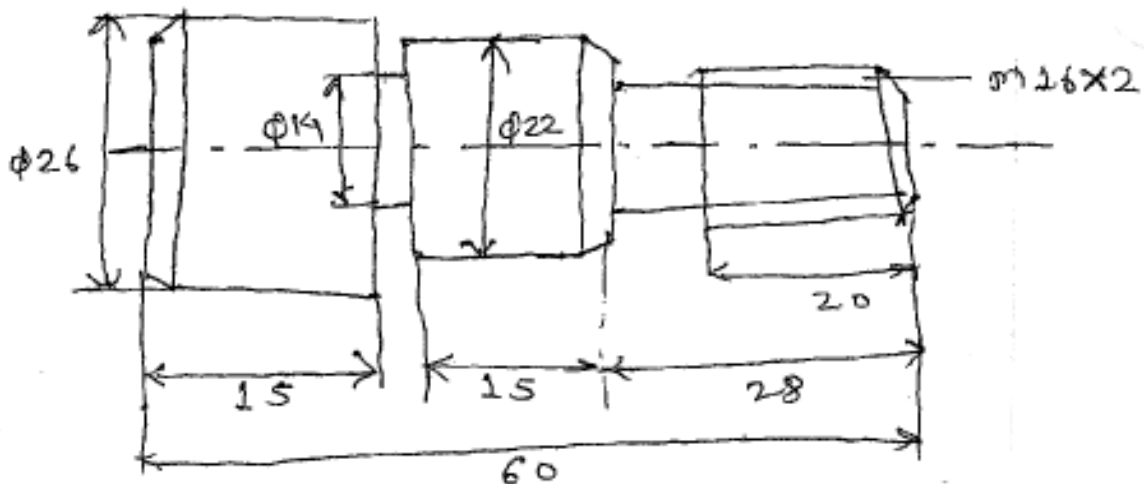

Fig. No. 1
1. Referring to Fig. No.1, design the set of plate type of cams for a single spindle automatic machine. Assume suitable machining parameters depending upon the type of material to be machined. Include the information on the chart and draw the layout for turret cam.